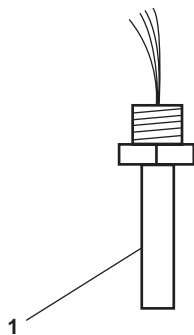

Figure 5. Thermal Heat Detector
1. Activate a thermal heat detector (figure 5, item 1) using a heat gun and observe the following: